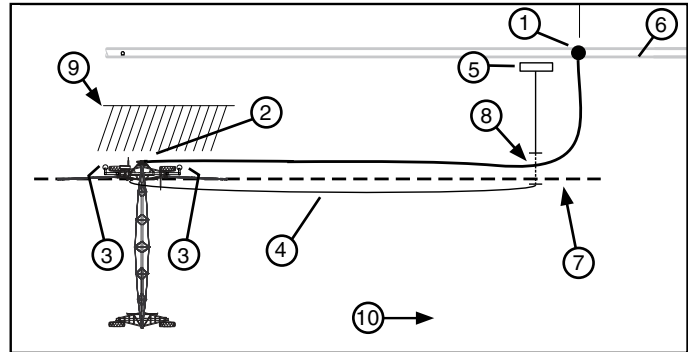

Figure 47-1 1. Shut Off Valve 6. Alternate Power Pedestal and Electric Cord Position
1. Connect the first hose to the pipeline shut off valve and linear cart swivel inlet, then latch in place. See figure 47-1.
- (b) Position the electric cord far enough away from the hose, so that the hose will not drag over it. To prevent interference between the electric cord, cart tires and hose, bury the electric cord in the area where interference will occur or when applicable, position the electric cord over the top of hose. See figure 47-1.